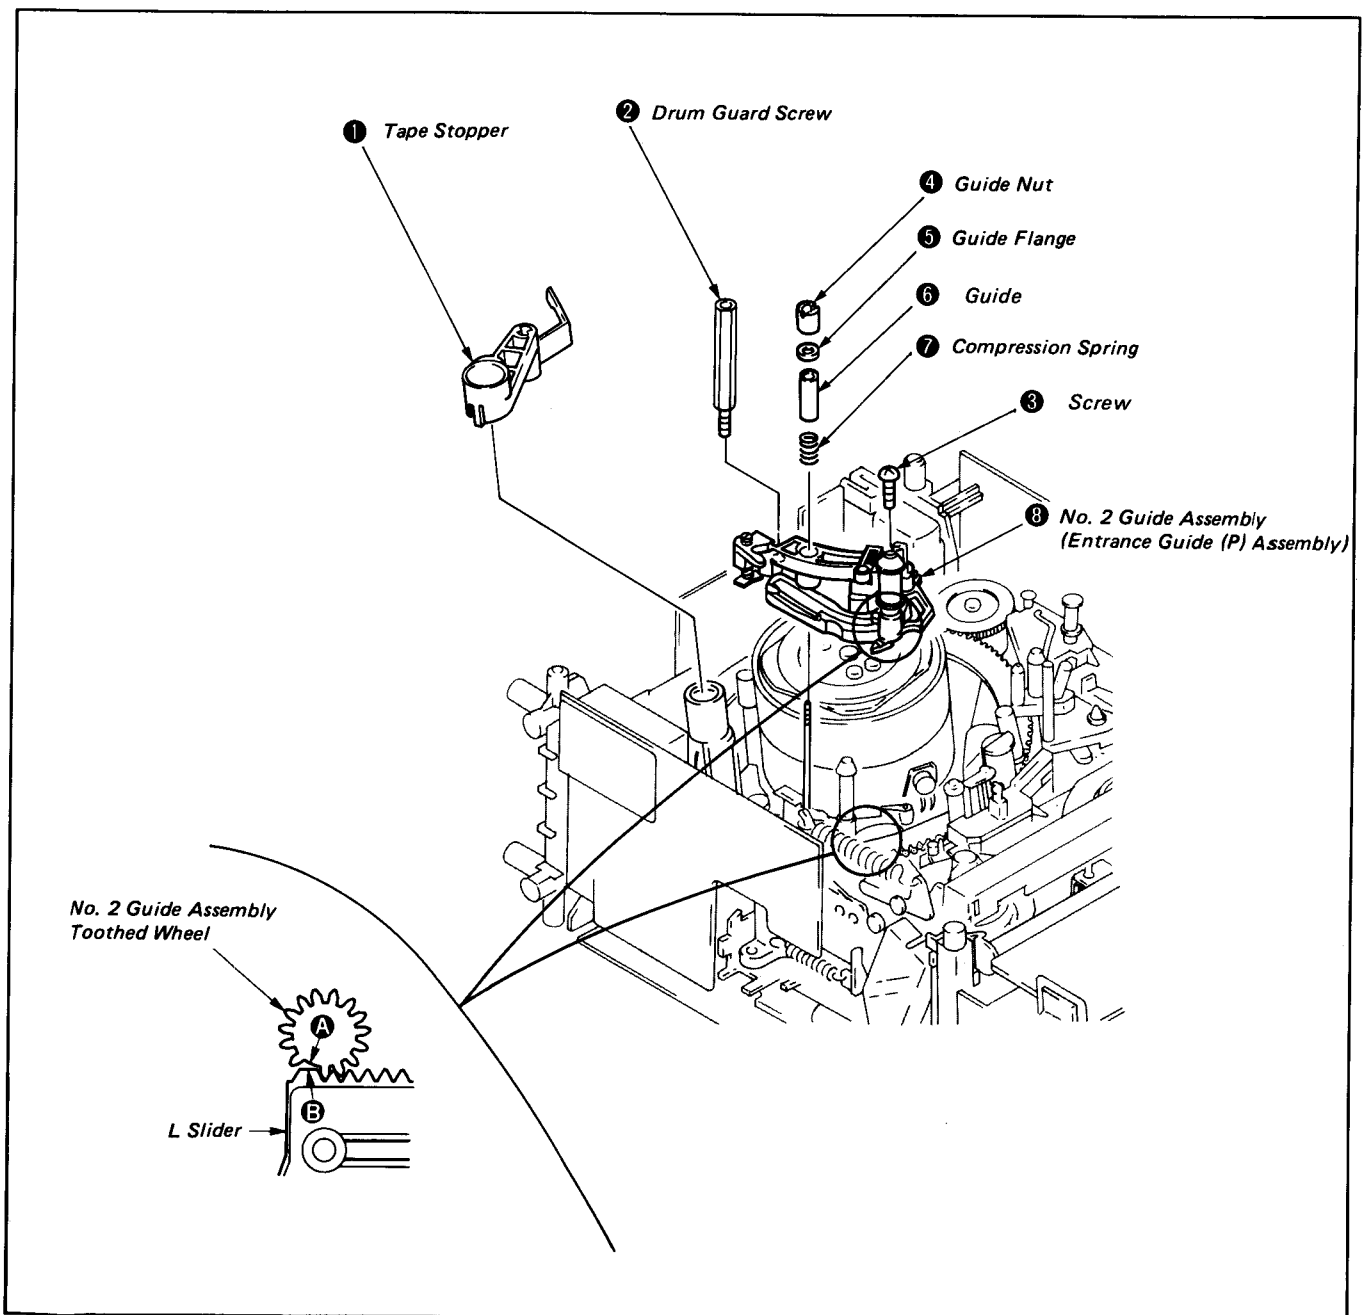

Fig. 8-30.
- 1) Release and remove claw of tape stopper ①.
- 3) Remove the drum guard screw ②.
- 4) Remove the screw ③.
- 5) Remove the guide nut ④ of the No. 3 guide, as well as the guide flange ⑤, guide ⑥ and compression spring ⑦.
- 6) Remove the No. 2 guide assembly ⑧. (See Fig. 8-30.)
- 2) Mesh the toothless part **A** of the toothed wheel under the No. 2 guide assembly (entrance guide (P) assembly) and that **B** of the L slider.
- 3) Remount the compression spring ⑦, guide ⑥, and guide flange ⑤ in this order and tighten the guide nut ④ temporarily.
- 4) Tighten the screw ③.
- 5) Tighten the drum guard screw ②.
- 6) Refit the tape stopper ①. (See Fig. 8-30.)